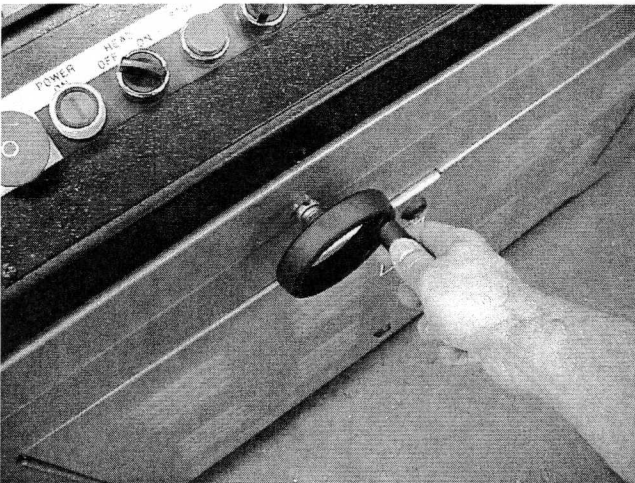
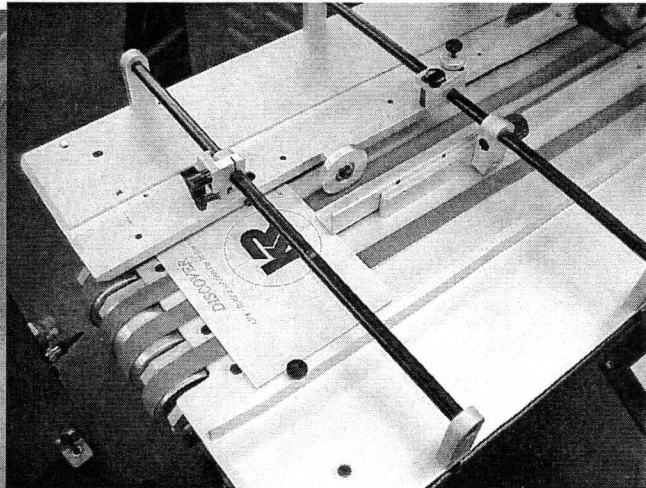

Figure 3
Figure 4
2. Adjust the tabletop (see **Figure 3**) so that the product hits the bump turn on center (see **Figure 4**).